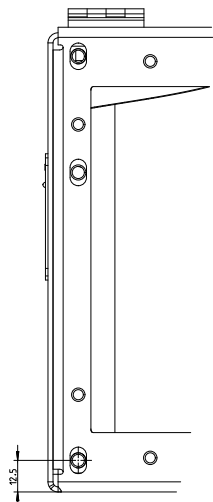

Fig. 119
- In Fig 119 & 120 you can see the difference between the electronics housings depending on which adapter is to be fitted.
- In Fig. 119 you can see the position of the mounting brackets when a size 4 adapter is attached.